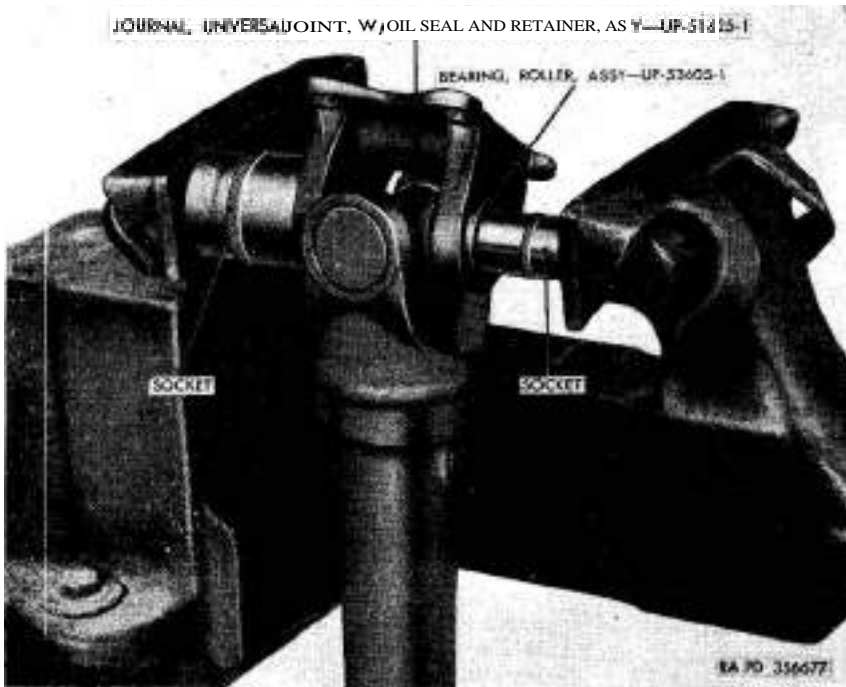

Figure 144. Removing roller bearing assembly from universal joint.
- (a) Position a $1\frac{1}{4}$ -inch heavy-duty socket over roller bearing assembly (F) and a $\frac{1}{2}$ -inch socket over roller bearing assembly (Y). Force roller bearing assembly (F) from the flange yoke (BB) with a vise (*fig. 144*) or an arbor press. Watch the position of journal (J) as bearing assembly is forced from the yoke because the opposite bearing oil seal retainers (H and AA) will be damaged if they contact the splined yoke or propeller shaft tube yoke ends.